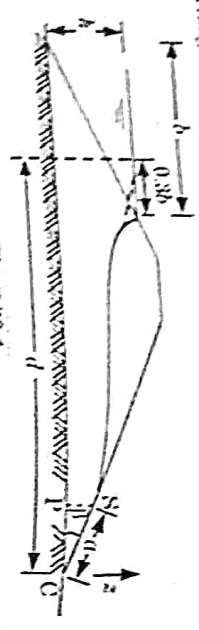

Fig. 2.20.1
- If the angle β is less than 30° (Fig. 2.20.1) point S at which the seepage line becomes tangential to downstream face can be obtained using Schaffernack's method.